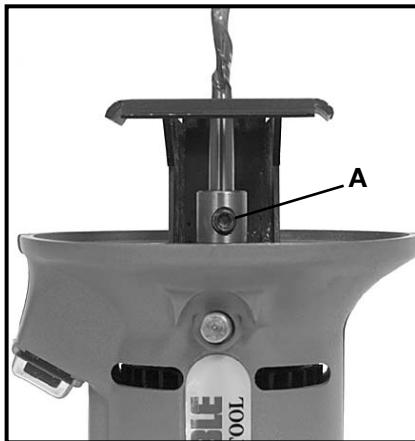

Fig. 3
1. Clean and insert a bit shank into the Cutout Tool spindle (see Fig. 3). The bit shank must extend at least 1/2" into the spindle.
3. Firmly tighten screw (A) Fig. 3.